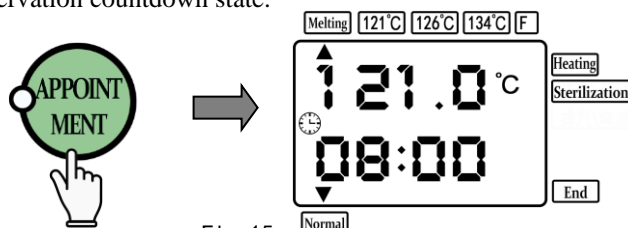

Fig. 15
⑤ Reservation setting: Press the "Reservation" key to the interface shown in **Fig.15**, and then follow the steps in section ② (setting sterilization time) above to set the reservation time. After setting, press the "Start" key to enter the reservation countdown state.